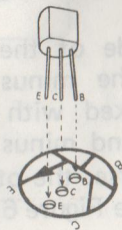

Figure 7
Now, look at the Transistor, with the flat side toward you and look at Figure 7.
- Mount a Transistor marked C945 or 828 or C1815 or C711 or 9013 or 9014 between 18, 19 and 20. **Position it so the flat side is toward spring 25.** Insert the leads through the holes provided. On the bottom, connect the upper lead to 19, the center lead to 18 and the lower lead to 20. (See Figure 7 and 8.)
- Mount another Transistor between 28, 29 and 30. **Position it so the flat side is toward 28.** Insert the leads through the holes provided. On the bottom, connect the left lead to 29, the center lead to 28 and the right to 30. (See Figure 7 and 8.)
- Mount the remaining Transistor between 28, 31 and 32. **Position it so the flat is toward 31.** Insert the leads through the holes provided. On the bottom, connect the left lead to 28, the center to 31 and the right to 32. (See Figure 7 and 8.)
1. Be sure the transistor leads are connected properly. Study Figure 7 and 8 once more and be sure each lead has been correctly connected.